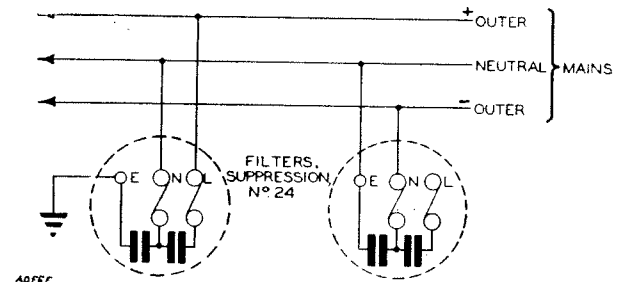

FIG. 3—METHOD OF CONNECTING CAPACITORS TO 3-WIRE D.C. SUPPLY SYSTEM
20. **3-wire D.C. system.** This system utilises three conductors, the 'positive outer', 'neutral', and 'negative outer', as shown in Fig. 3. The neutral is earthed at the supply station, and a voltage V is maintained between each outer and neutral. The voltage between the outers is $2V$. The method of connecting "Filters, Suppression, No. 24" to this system is shown in Fig. 3.